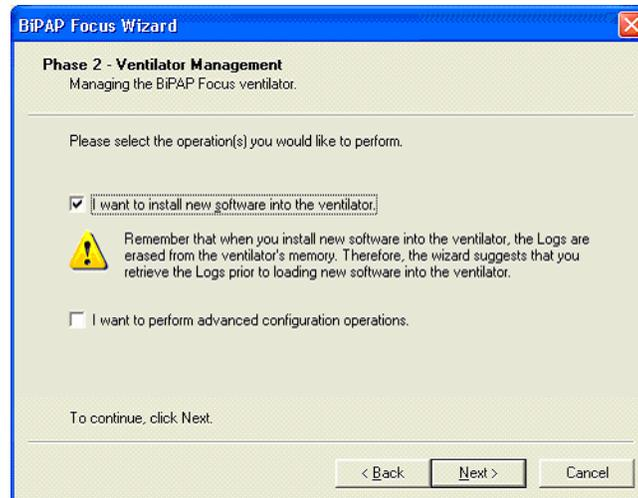

Figure 6-15: Ventilator Management Screen
6. Click **Next**, the *Ventilator Management* dialog box appears (Figure 6-15), which allows loading new software into the ventilator configuration or selecting Advanced configuration operations.